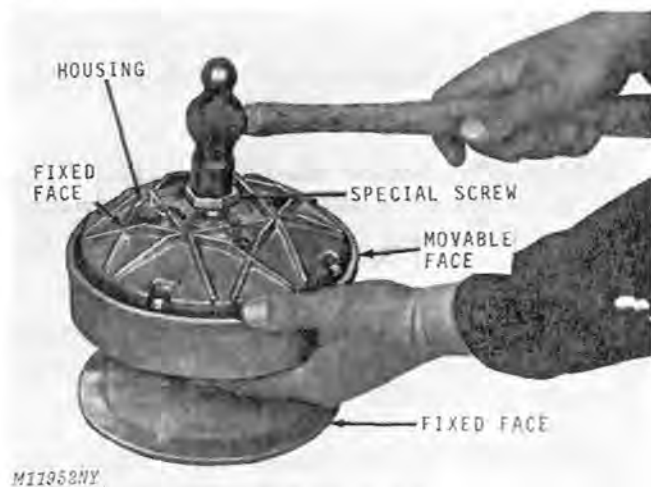

Fig. 4—Removing Fixed Face From Movable Face
Hold the assembly and rap special screw with a hammer, Fig. 4. This will free tapered stem of fixed face and hub from movable face assembly (3). Remove special screw and lock plate (20). Lift housing (17) with arm assemblies (14) from movable face assembly (3).